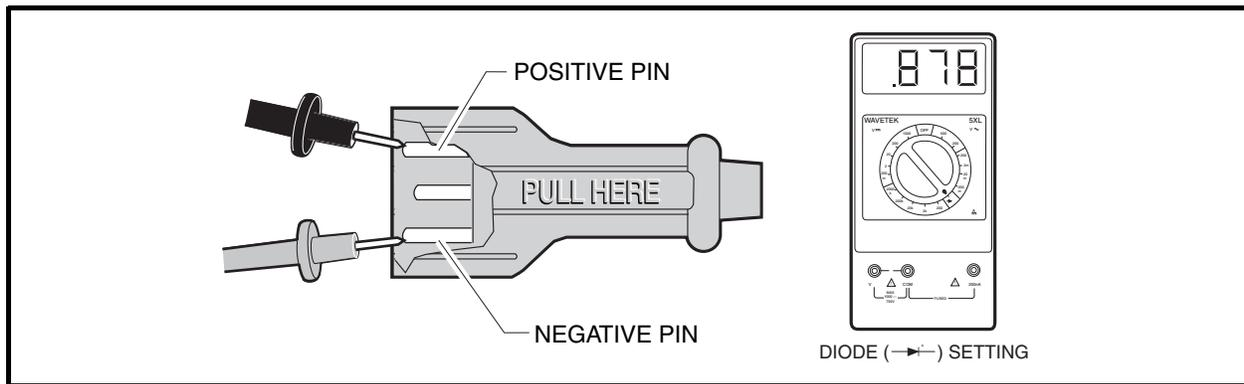

Figure 6-21 DC Plug Test – Probes Reversed
3. Reverse the test probes and check the DC plug again (**Figure 6-21, Page 6-22**). The multimeter should indicate approximately 922 mV.